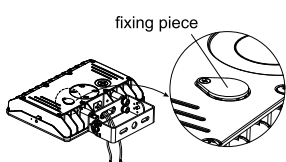

Figure 28
Step 1: Find the switch to adjust CCT(Figure 28);